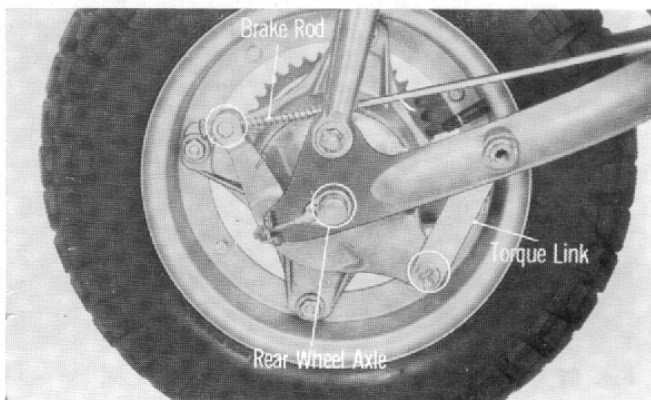

Fig. 84
- (1) The disassembly of the rear wheel can be performed without removing the muffler.
- (2) Disconnect the drive chain.
- (3) Remove the brake adjusting nut and separate the brake rod from the rear brake arm.
- (4) Separate the rear brake torque link from the brake panel.
- (5) Remove the rear wheel axle by removing the axle nut and then rear wheel may be removed with the driven sprocket combined. (Fig. 84)